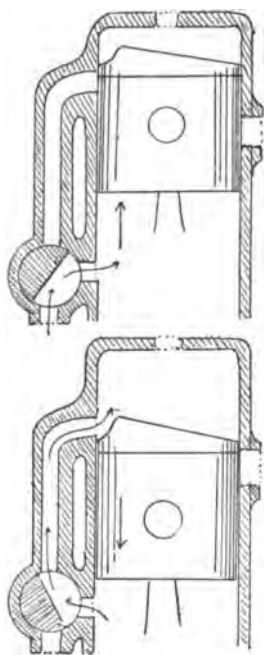
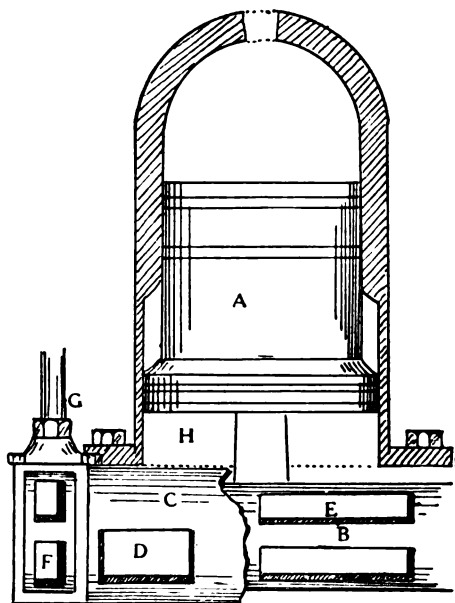

Fig. 12
Fig. 13
of the cylinders and are operated by silent chains from the crank-shaft. As the piston of one cylinder descends on the intake-stroke the inlet-valve revolves until the slot in the tubes comes into line with the intake-port. As it travels at one-half crank-shaft speed and the slot covers practically one-quarter of its circumference, the inlet-port remains open during the downward stroke of the piston and closes on the upward or compression stroke and on the following firing-stroke, after which the slot in the exhaust-valve commences to pass across the exhaust-port and remains open for practically half a revolution of the main shaft or one-quarter of a revolution of the valve. At the conclusion of this stroke the inlet-valve again opens for the suction-stroke. There are a great many variations of this type of valve, some makers using a single valve for both intake and exhaust, while others place both valves on one side of the motor, one above the other. Several very successful two-cycle motors are also made with rotating-valves; some of them employ the disk type and others the tubular. In the case of two-cycle motors the valves are slightly different, and their operation may be more satisfactorily mastered by studying the diagram shown in Fig. 12. Some two-cycle motors have the rotary valve at the intake only, with an ordinary open exhaust-port; others use valves at both intake and exhaust, while still others use a large rotary valve in the base as a *distributor* and force the charge of gas through this mechanism to the various cylinders in their proper order. The well-known Elmore motor is of this type, and a portion of the base of a cylinder with the rotary valve or distributor is shown in Fig. 13. The piston (A) is much larger at the lower end than at the upper, and this enlarged lower end acts as a fuel-pump, alternately sucking in the gas to fill the space (H) and forcing it out under pres-